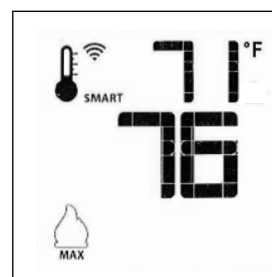

Fig. 15.13. Smart Mode
- To activate this function, press the Thermostat Key until the word “SMART” appears to the right of the thermometer bulb icon. Fig. 15.13.